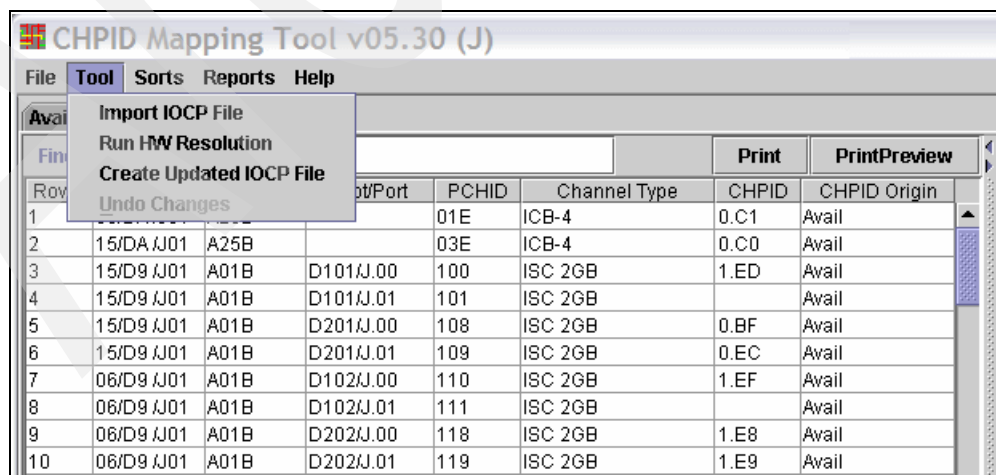

Figure 3-70 CMT - Create Updated IOCP File
3. The CHPID Mapping Tool opens a browser window with the CHPID to Control Unit Report; see Figure 3-70 on page 118. You may be prompted to accept active content; accept the active content to display the report in your browser.
1. Click **Tool** → **Create Updated IOCP File** (Figure 3-70).